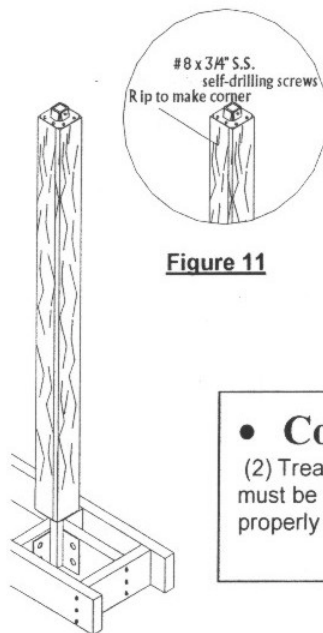

Figure 11
(2) Treated wood bracket backings, one (1) must be ripped to approximately 2-3/4" to mate properly at the corner. (Figure 11)